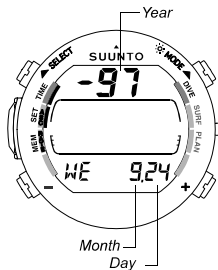

Fig. 5.5 The year, month or day is selected.
- While year, month or day is selected, the display will show all the segments displayed in the Fig. 5.5.